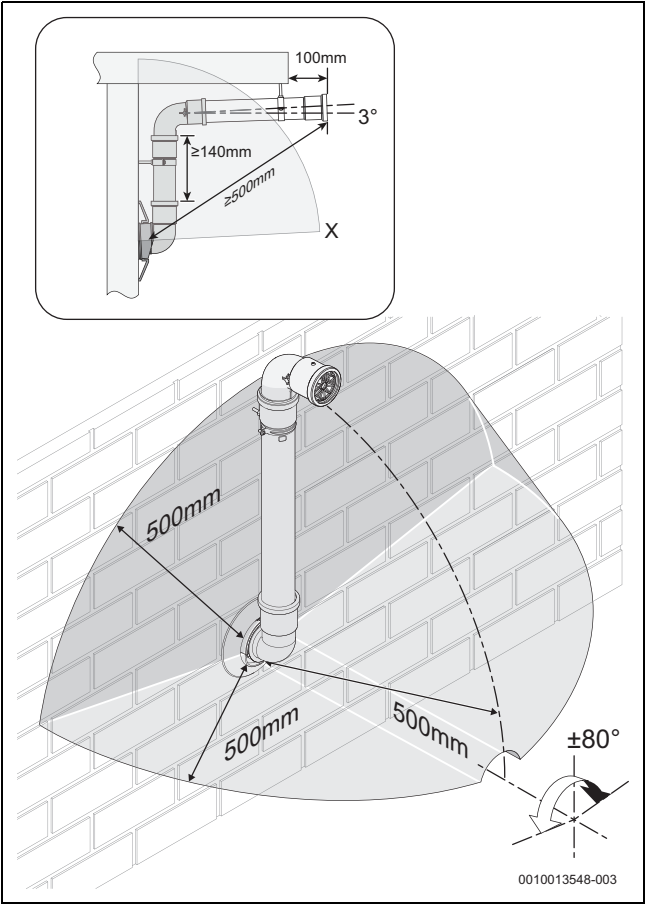

Fig. 27 Terminal exclusion zone
- ▶ Do not terminate the plume management inside the terminal exclusion zone (shaded area) shown in figure 27.